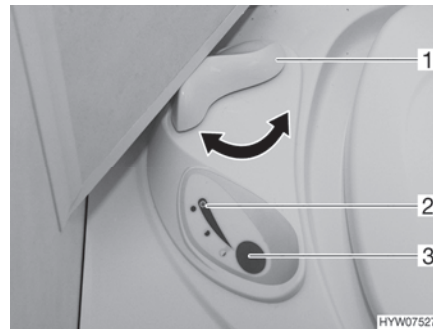

Fig. 148 Operating unit Thetford toilet
- Before flushing open the sliding trap of the Thetford toilet. To do this, turn the slide lever (Fig. 148,1) in an anticlockwise direction.
- For flushing, press the blue flush button (Fig. 148,3).
- After flushing close the sliding trap. To do this turn the slide lever (Fig. 148,1) in a clockwise direction.
The indicator lamp (Fig. 148,2) lights up whenever the Thetford cassette has to be emptied.